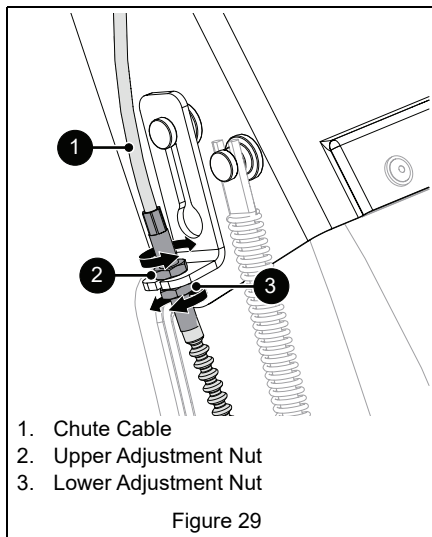

Figure 29
2. Adjust nuts on chute cable. See Figure 29.